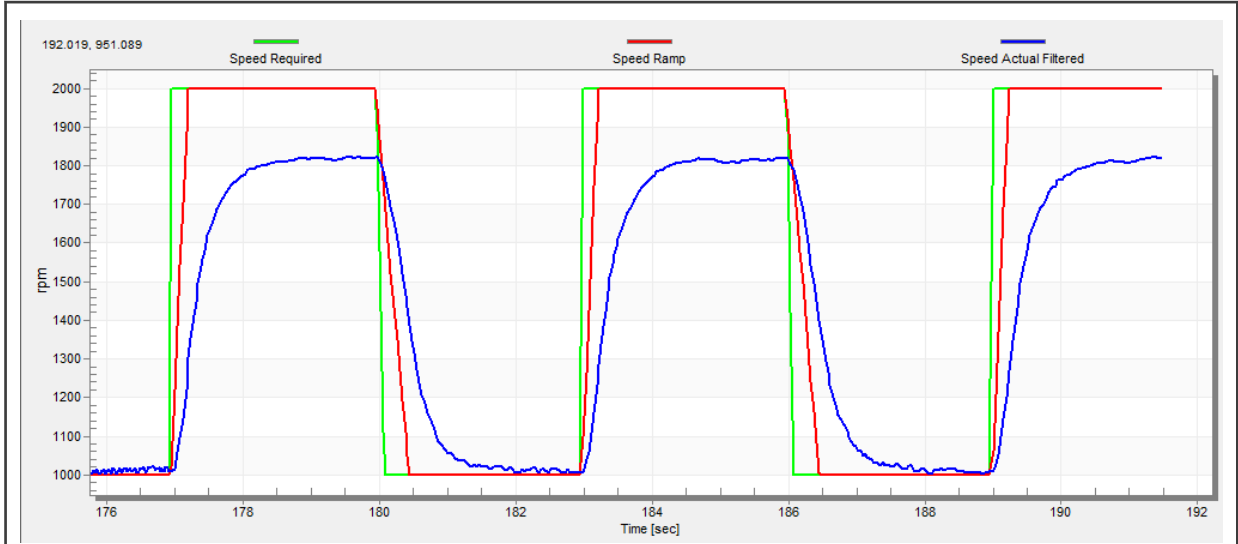

Figure 35. Speed controller response— SL_{Ki} value is low, Speed Ramp is not achieved
The motor speed control loop is a first-order function with a mechanical time constant that depends on the motor inertia and friction. If the mechanical constant is available, the PI controller constants can be tuned using the loop bandwidth and attenuation. Otherwise, the manual tuning of the P and I portions of the speed controllers is available to obtain the required speed response (see the example response in Figure 35). There are dozens of approaches to tune the PI controller constants. The following steps provide an approach to set and tune the speed PI controller for a PM synchronous motor:
- The “SL_Ki” value is low and the “Speed Actual Filtered” does not achieve the “Speed Ramp” (see Figure 35).